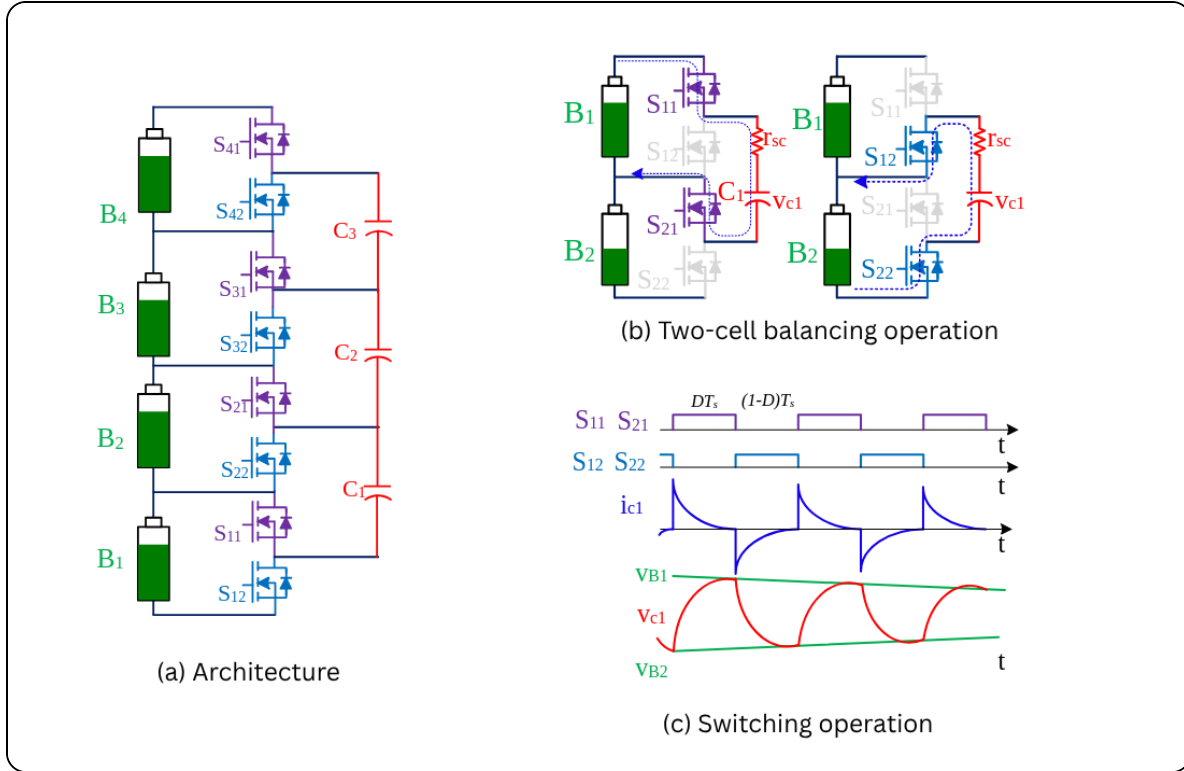

Figure 6. Ladder switched capacitor balancing topologies
The basic architecture of the ladder switched capacitor (SC) is shown in Figure 6(a). The corresponding equivalent circuit for the two-cell balancing model is shown in Figure 6(b). Consider the voltage imbalance assumption “ $V_{B1} > V_{B2}$ ”, all PWMs for the half-bridge top (S_{11} , S_{21}) and bottom
reverse the PWMs action in the next half. The SC gets a charge from Cell-1 during the first half-cycle, and the same amount discharges to Cell-2 in the next half-cycle. The steady-state waveform of the switched capacitor under charge balancing operation is shown in Figure 6(c).